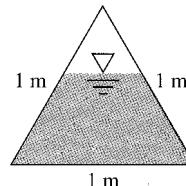

Fig. P10.56
**10.56** A riveted-steel triangular duct flows partly full as in Fig. P10.56. If the critical depth is 50 cm, compute (a) the critical flow rate; and (b) the critical slope.
**10.57** For the triangular duct of Fig. P10.56, if the critical flow rate is 1.0  $\text{m}^3/\text{s}$ , compute (a) the critical depth; and (b) the critical slope.